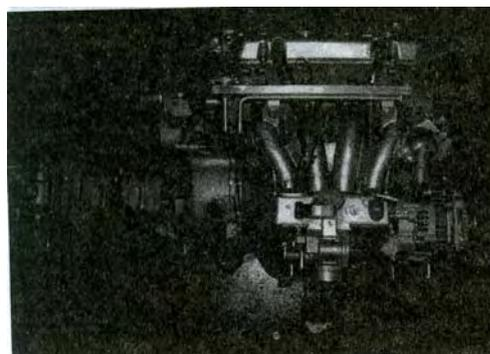
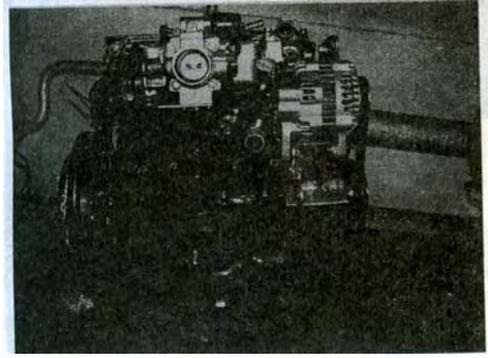

Fig. 4-40
Fig. 4-42
- (30) Screw off bolts on the back engine (Fig.4-40);
- (31) Move engine backward to prevent to touch radiator fan and cover. Lift body and remove engine assembly;
- (32) Remove clutch cover;
- (33) Remove starter;
- (34) Disconnect engine from transmission (Fig.4-42).